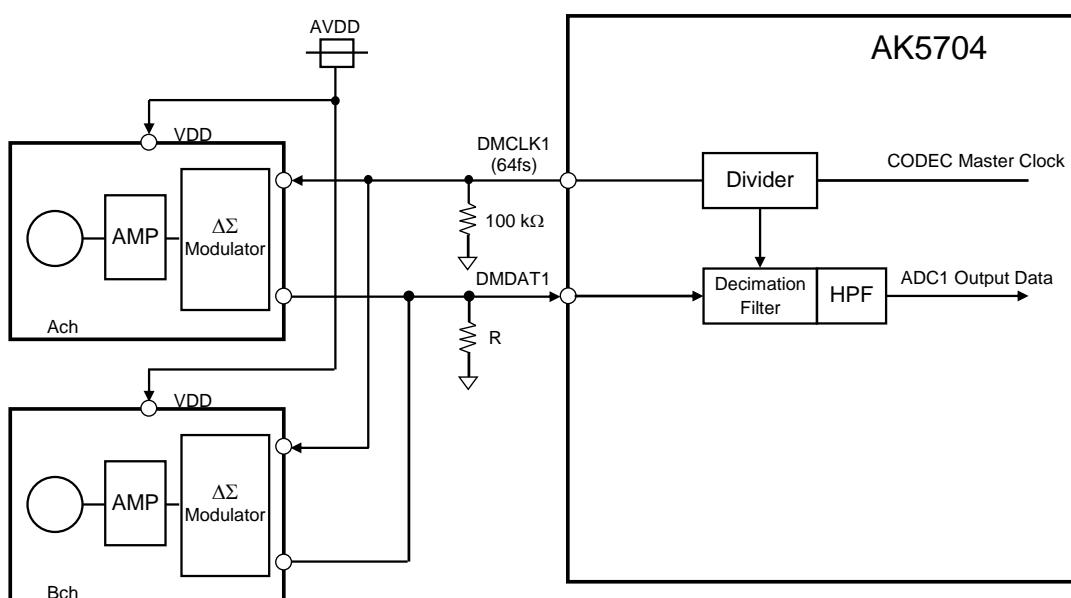
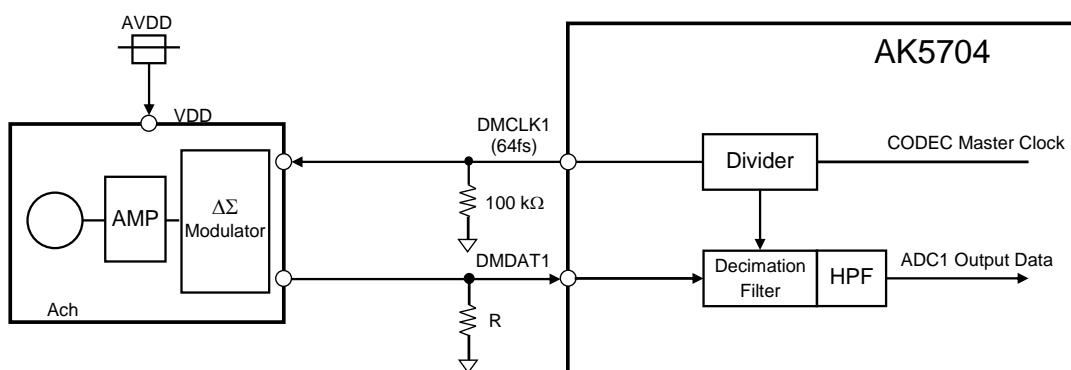

Figure 33. Connection Example of Stereo Digital Microphone (DMIC1 bit = “1”)
Figure 34. Connection Example of Monaural Digital Microphone (DMIC1 bit = “1”)
The same power supply as AVDD must be provided to the digital microphone. The Figure 33 and Figure 34 show stereo/mono connection examples. By dividing the master clock to 64fs with divider, the DMCLK1 (DMCLK2) signal is output from the AK5704, and the digital microphone outputs 1bit data, which is generated by $\Delta\Sigma$ Modulator, to DMDAT1 (DMDAT2). PMDM1A/B (PMDM2A/B) bits control power up/down of the digital block (Decimation Filter and HPF). PMAD1A/B (PMMDM2A/B) bits settings do not affect the digital microphone power management. The DCLKE1 (DCLKE2) bit controls ON/OFF of the output clock from the DMCLK1 (DMCLK2) pin. When the AK5704 is power-up (PDN pin = “H”), external pull-down resistor (R) should be connected to the DMDAT1 (DMDAT2) pin to avoid floating state. Note that when using the digital microphone it does not support quad speed mode ($fs \geq 128$ kHz).